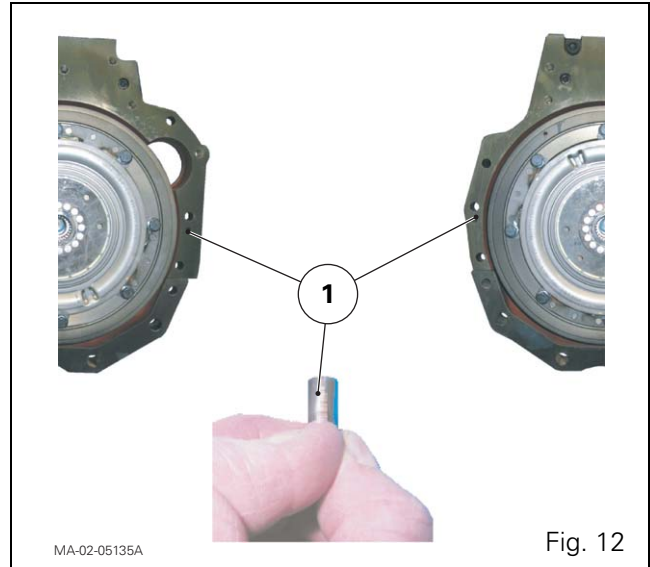

Fig. 12
**NOTA:** During assembly, these pins fit into the drill holes (1) on the engine adapter plate (Fig. 12).